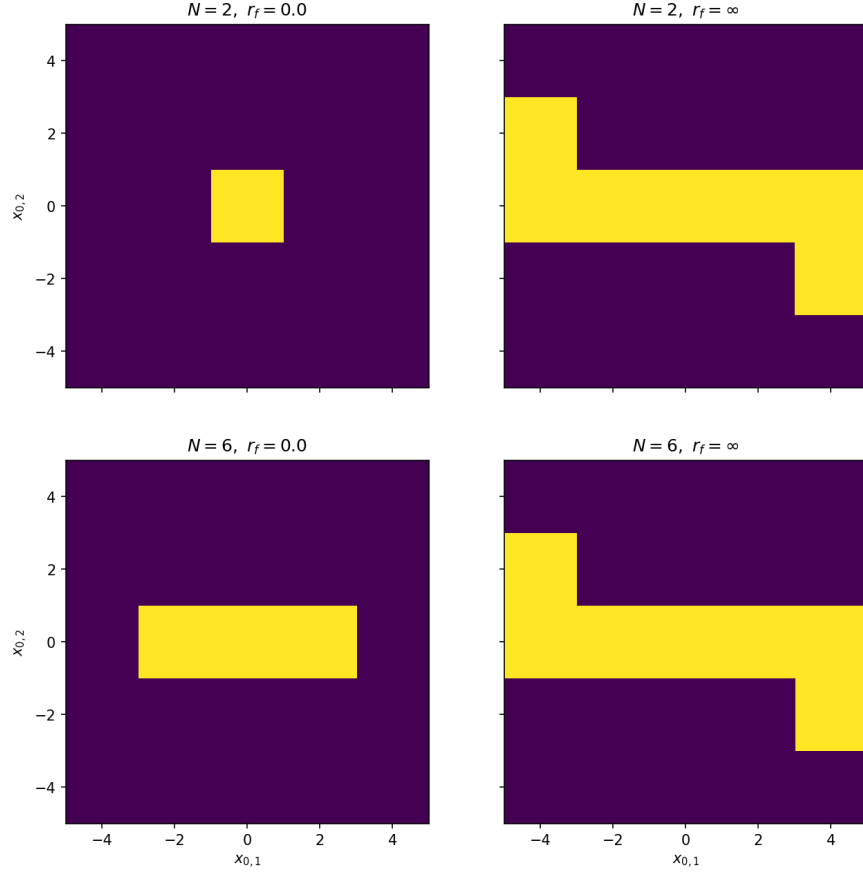

Figure 3: ROAs with a coarse grid resolution.
*Hint:* While debugging your code, you can set a small `grid_dim` to reduce the amount of time it takes to compute the ROAs. See Figure 3 for the ROAs with `grid_dim = 5`. However, you must submit your plot of the ROAs with at least `grid_dim = 30`.